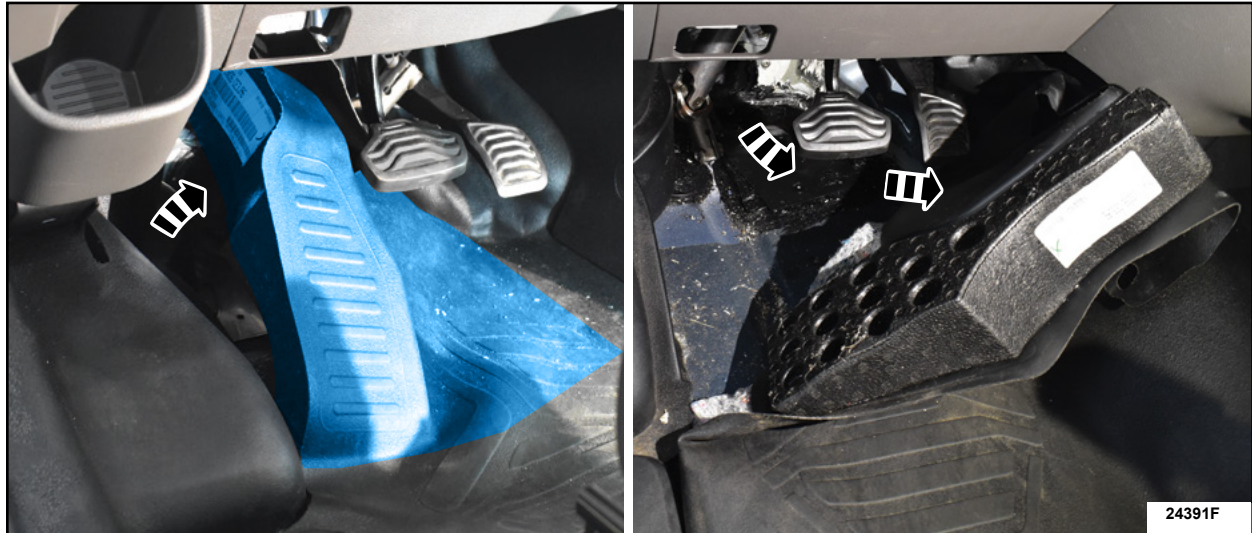

FIGURE 6
8. Using care not to damage the flooring, fold the rubber flooring, including the foot rest, towards the center of the vehicle as shown in Figure 6.